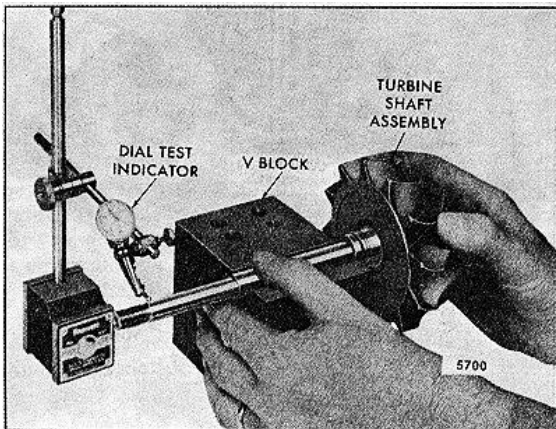

FIG. 13 - Measuring Concentricity Between Large and Small Turbine Shaft Diameters
- d. Measure the concentricity between the large and small turbine shaft diameters with a dial test indicator and vee-block (Fig. 13). Limit of eccentricity is .0015 " total indicator reading. Replace if the measurement is excessive.